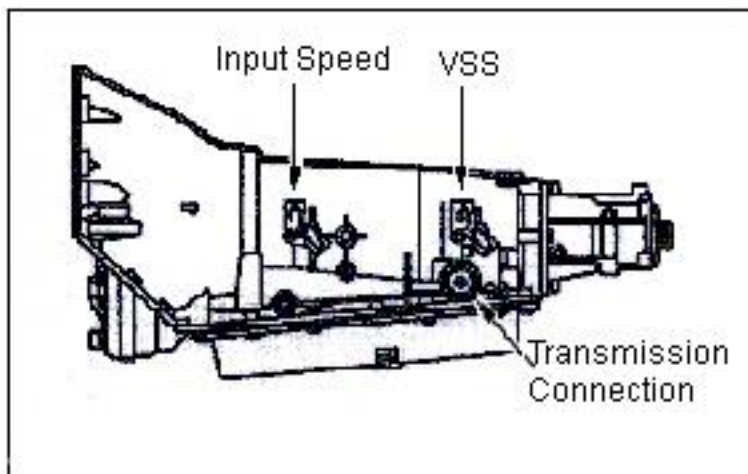

FIGURE 6.23 VSS & Input Speed Sensor, Transmission Connection(4L80E)
D. Route the pigtail with the other transmission wires to the transmission and connect it to the Input speed sensor, located towards the front of the transmission, see figure 6.23. Please be aware that this connector is also the same connector that plug into the VSS sensor, do not mistakenly plug the Input Speed sensor into the VSS on the rear of the transmission and or the VSS connector into the Input Speed Sensor.